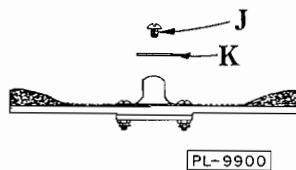

Fig. 2
As soon as the peeling is finished and before the hopper has had time to dry, lift off the hopper top (A) and clean out the inside with a hose. The abrasive disc is not fastened to its shaft and can be lifted out easily to permit cleaning the space underneath it. If the disc should stick and resist removal, take out the screw (J) (Fig. 2) and lift washer (K), then assemble a 5/16"-18 x 1" (approx.) long hex head screw into the tapped hole of the disc. Turn this screw until the disc is loosened.